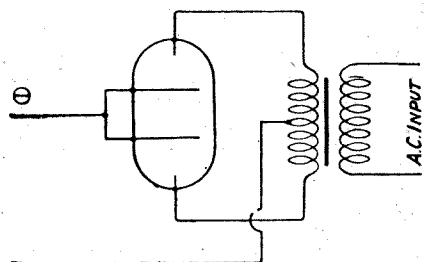
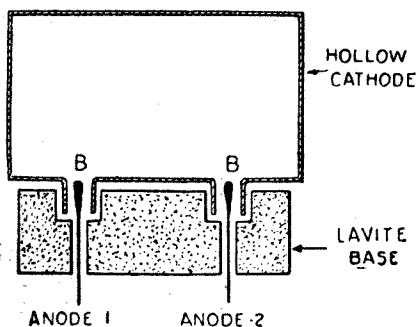

Fig. 1.—The one tube gives double-wave rectification, the circuit being as shown above.
Fig. 2.—Showing the construction of the rectifier.
Reference to Fig. 1 will show that with crystal rectification we have the right condition for the production of both the even and the odd harmonics. The operation of detecting these harmonics and calibrating both a short-wave set and an absorption wavemeter, is as follows, and is illustrated diagrammatically in Figs. 2 and 3:—
*Fig. 2.—The coil of the crystal set is placed in a position of loose coupling with the valve set coil, the circuit of the former being tuned to the frequency of the local broadcasting station.*
The device is arranged to give double-wave rectification in the one tube, the circuit being as shown in Fig. 1. The actual mechanical construction of the tube, however,
The two small electrodes are in the form of thin rods, which are mounted in insulating material, while the two large electrodes, which are shown connected together in Fig. 1, are combined into a single casing which completely encloses the small electrodes. The construction is illustrated in Fig. 2.